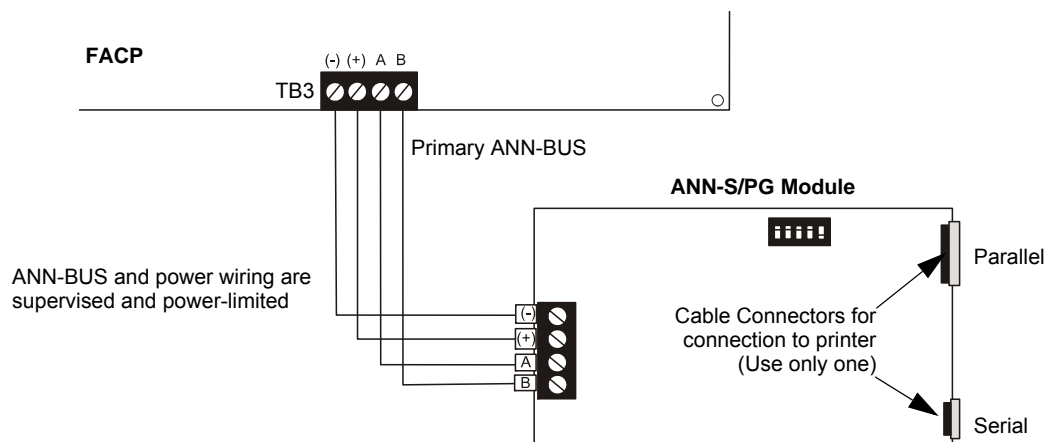

Figure 2.19 ANN-S/PG Connection to FACP
2. Connect the ANN-S/PG to the FACP as illustrated in Figure 2.19
5. Connect a printer to the ANN-S/PG Parallel or Serial connector (refer to Figure 2.19 on page 40)